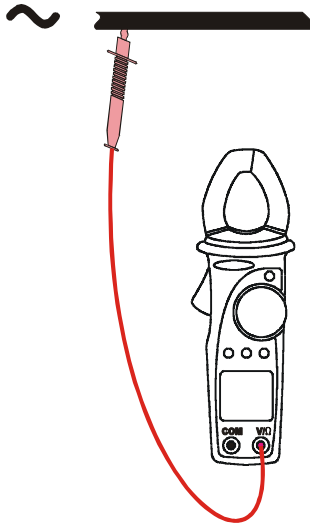
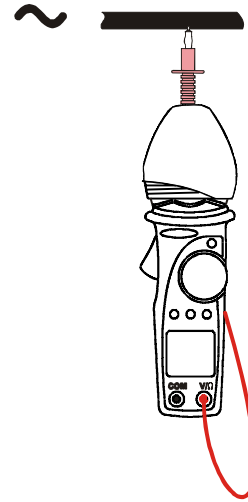

Fig. 18: Voltage detection
Fig. 19: Voltage detection with rubber cup
3. Connect the red terminal to the L1 phase conductor (see Fig. 18, 1st measurement). If necessary use the rubber cup to insert red test lead (see Fig. 19, 1st measurement).